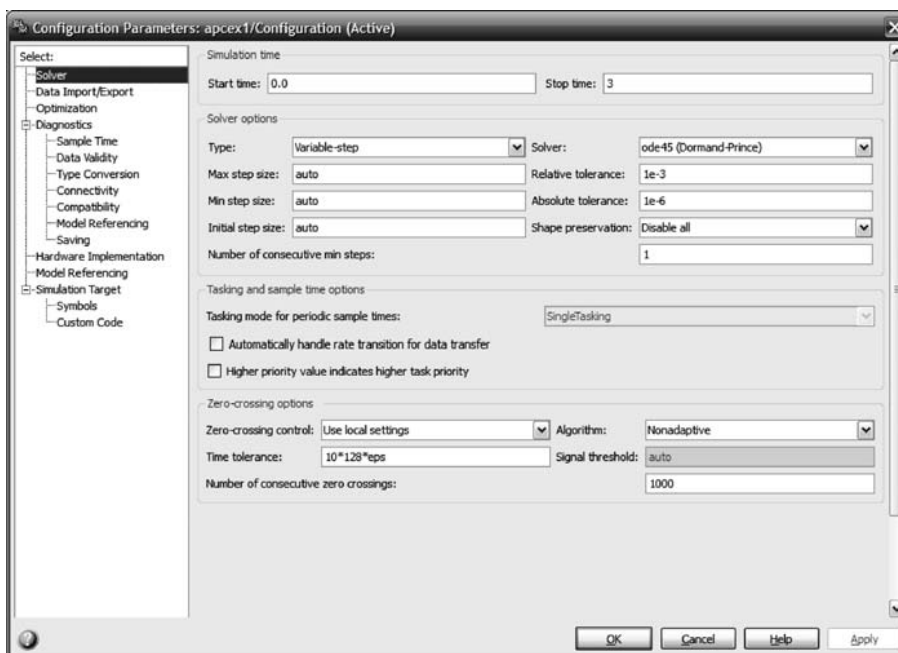

FIGURE C.8 Simulation Parameters window for Solver tab
Choose parameters for the simulation Follow Step (6) to set simulation parameters. Figure C.8 shows the resulting **Configuration Parameters** window after